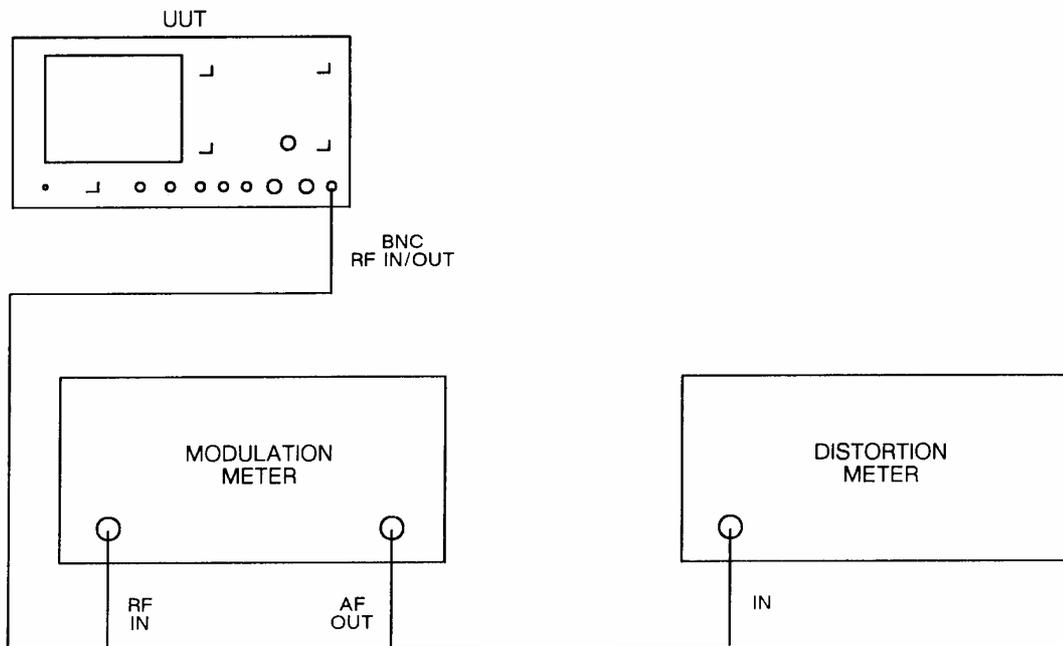

Fig. 5-1-22 Test equipment connections for RF generator AM & FM distortion performance checks
- (1) Connect the equipment as shown in Fig. 5-1-22.
- (2) Set the UUT to RX, RF GEN, carrier frequency 100 MHz, BNC output socket, level 0 dBm, FM frequency 1 kHz sine wave, modulation level 25 kHz, distortion/SINAD/SN off.
- (3) Set the modulation meter to monitor FM with 0.3-3.4 kHz band-pass filter selected.
- (4) Check that the FM deviation indicated on the modulation meter is within $\pm 7\%$ ± 10 Hz.
- (5) Repeat the above at random deviations between 0 and 25 kHz, and random carrier frequencies between 0.5 and 1000 MHz.
- (6) Repeat for modulation rates between 50 Hz and 15 kHz and check that the modulation meter deviation reading is within $\pm 10\%$. Ensure that the correct filters are selected on the modulation meter according to the modulation rate being used.